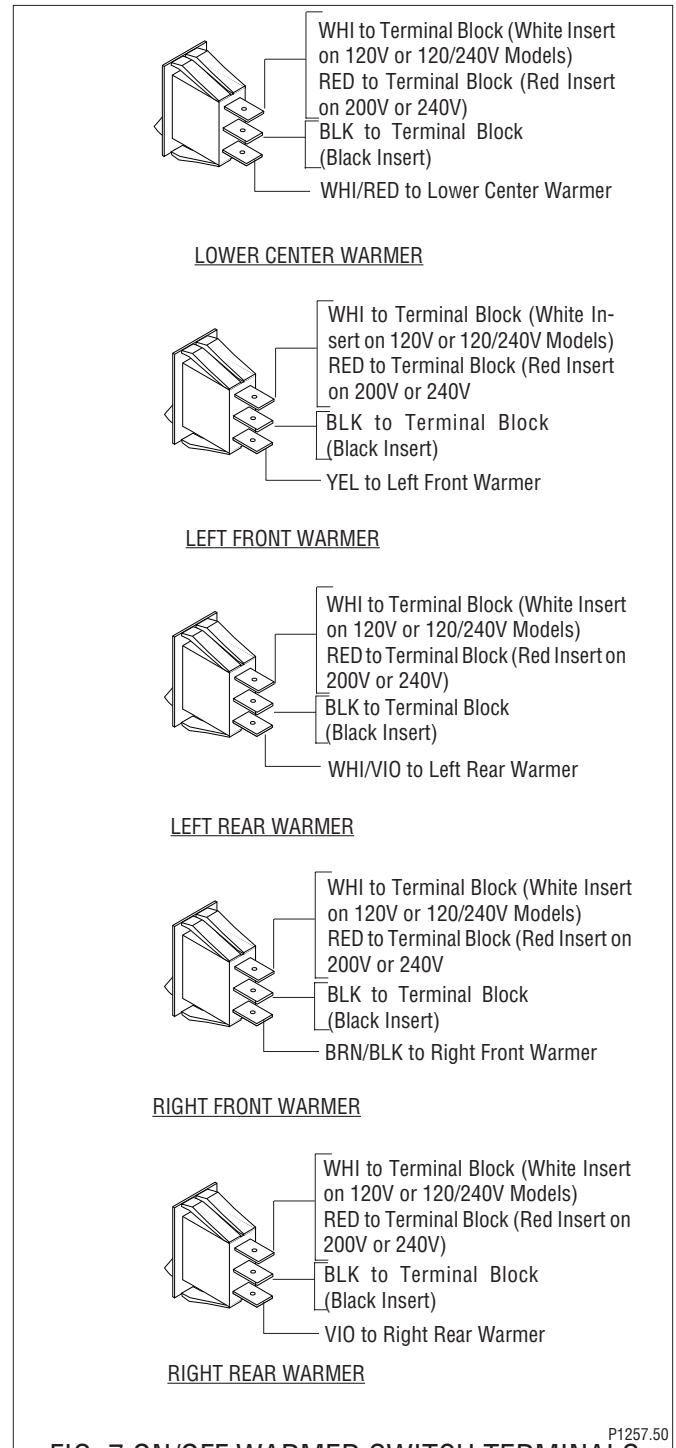

FIG. 7 ON/OFF WARMER SWITCH TERMINALS
4. Refer to Fig.7 when reconnecting the wires.